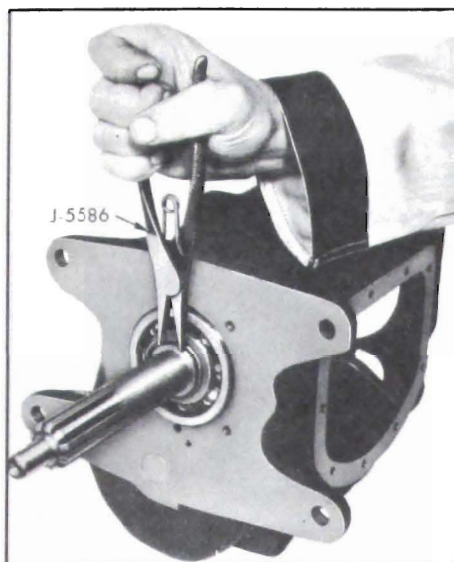

Figure 4-57—Removing Main Drive Gear Snap Ring
13. Remove the main drive gear snap ring (see Figure 4-57), and remove spacer washer.